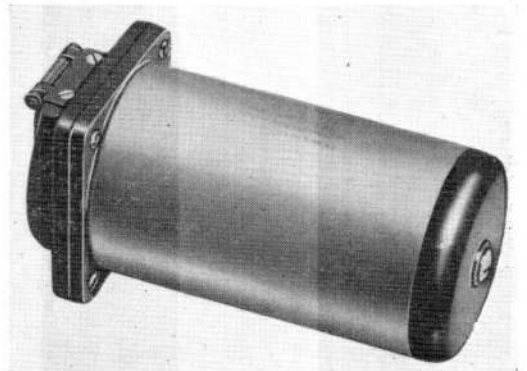
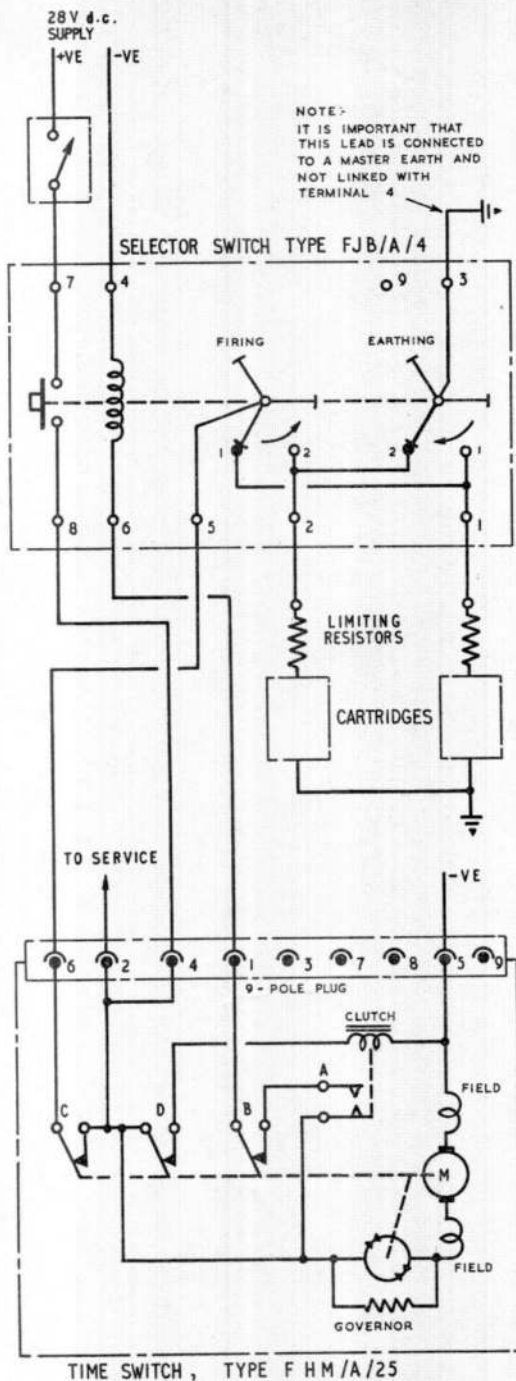

Fig. 1. Cartridge selector switch, Type FJB/A/4
Fig. 3. Circuit diagram, Type FJB/A/4 with time switch
3. A typical twin breech selector switch with push-switch incorporated, the FJB/A/4, is illustrated in fig. 1 and 2. The circuit diagram, in conjunction with a time switch, Type FHM/A/25, is shown in fig. 3. When the push-switch is depressed, this closes a pair of contacts in the selector switch, which initiates